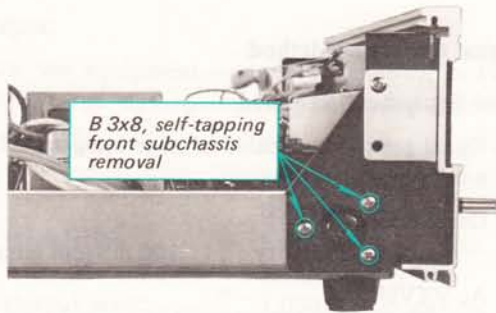

Fig. 2-9. Front subchassis removal
2. Remove the three screws at both sides of the chassis as shown in Fig. 2-9.